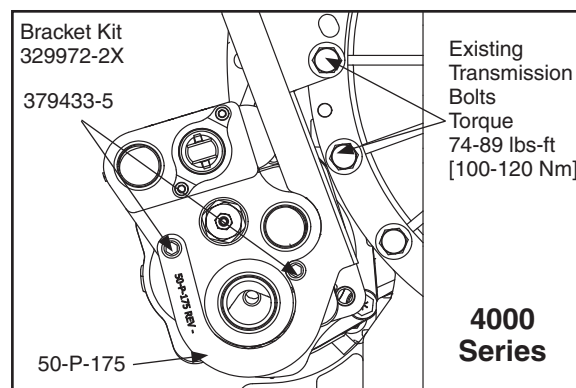
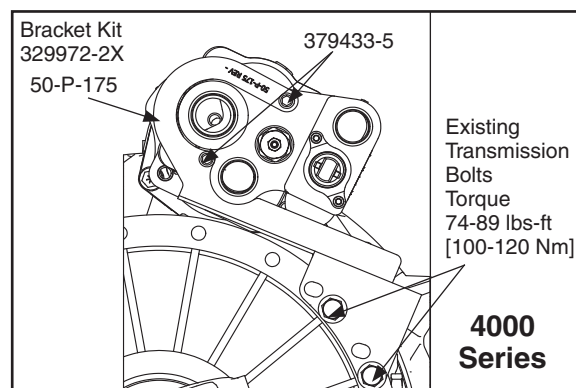

Fig. 10
Fig. 11
2. Install bracket to transmission using the existing transmission bolts in approved locations (**Fig. 10**) and (**Fig. 11**). Slightly tighten, but do not fully torque to allow alignment of all mounting holes.